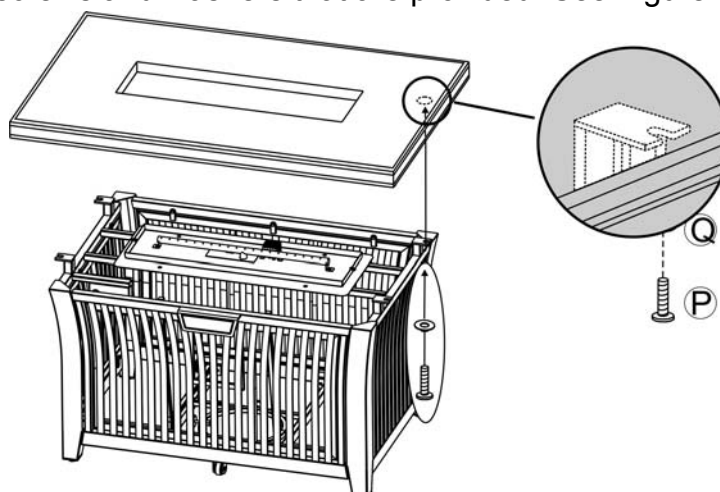

Figure 3
2. Place the firepit tabletop onto the firepit base. Secure the tabletop to the firepit base by using the 1/4 x 20 mm screws and washers that are provided. See Figure 3.